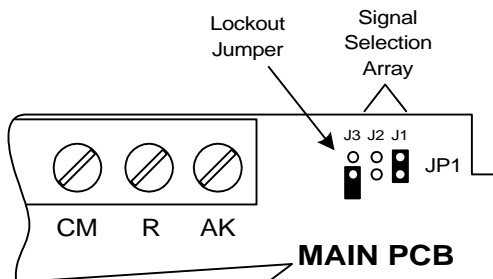

Figure 16. Input Signal Selection Jumper Array J1-J3.
1. Make sure the jumpers on J1-J2, are set for the desired input. (See Figure 16).